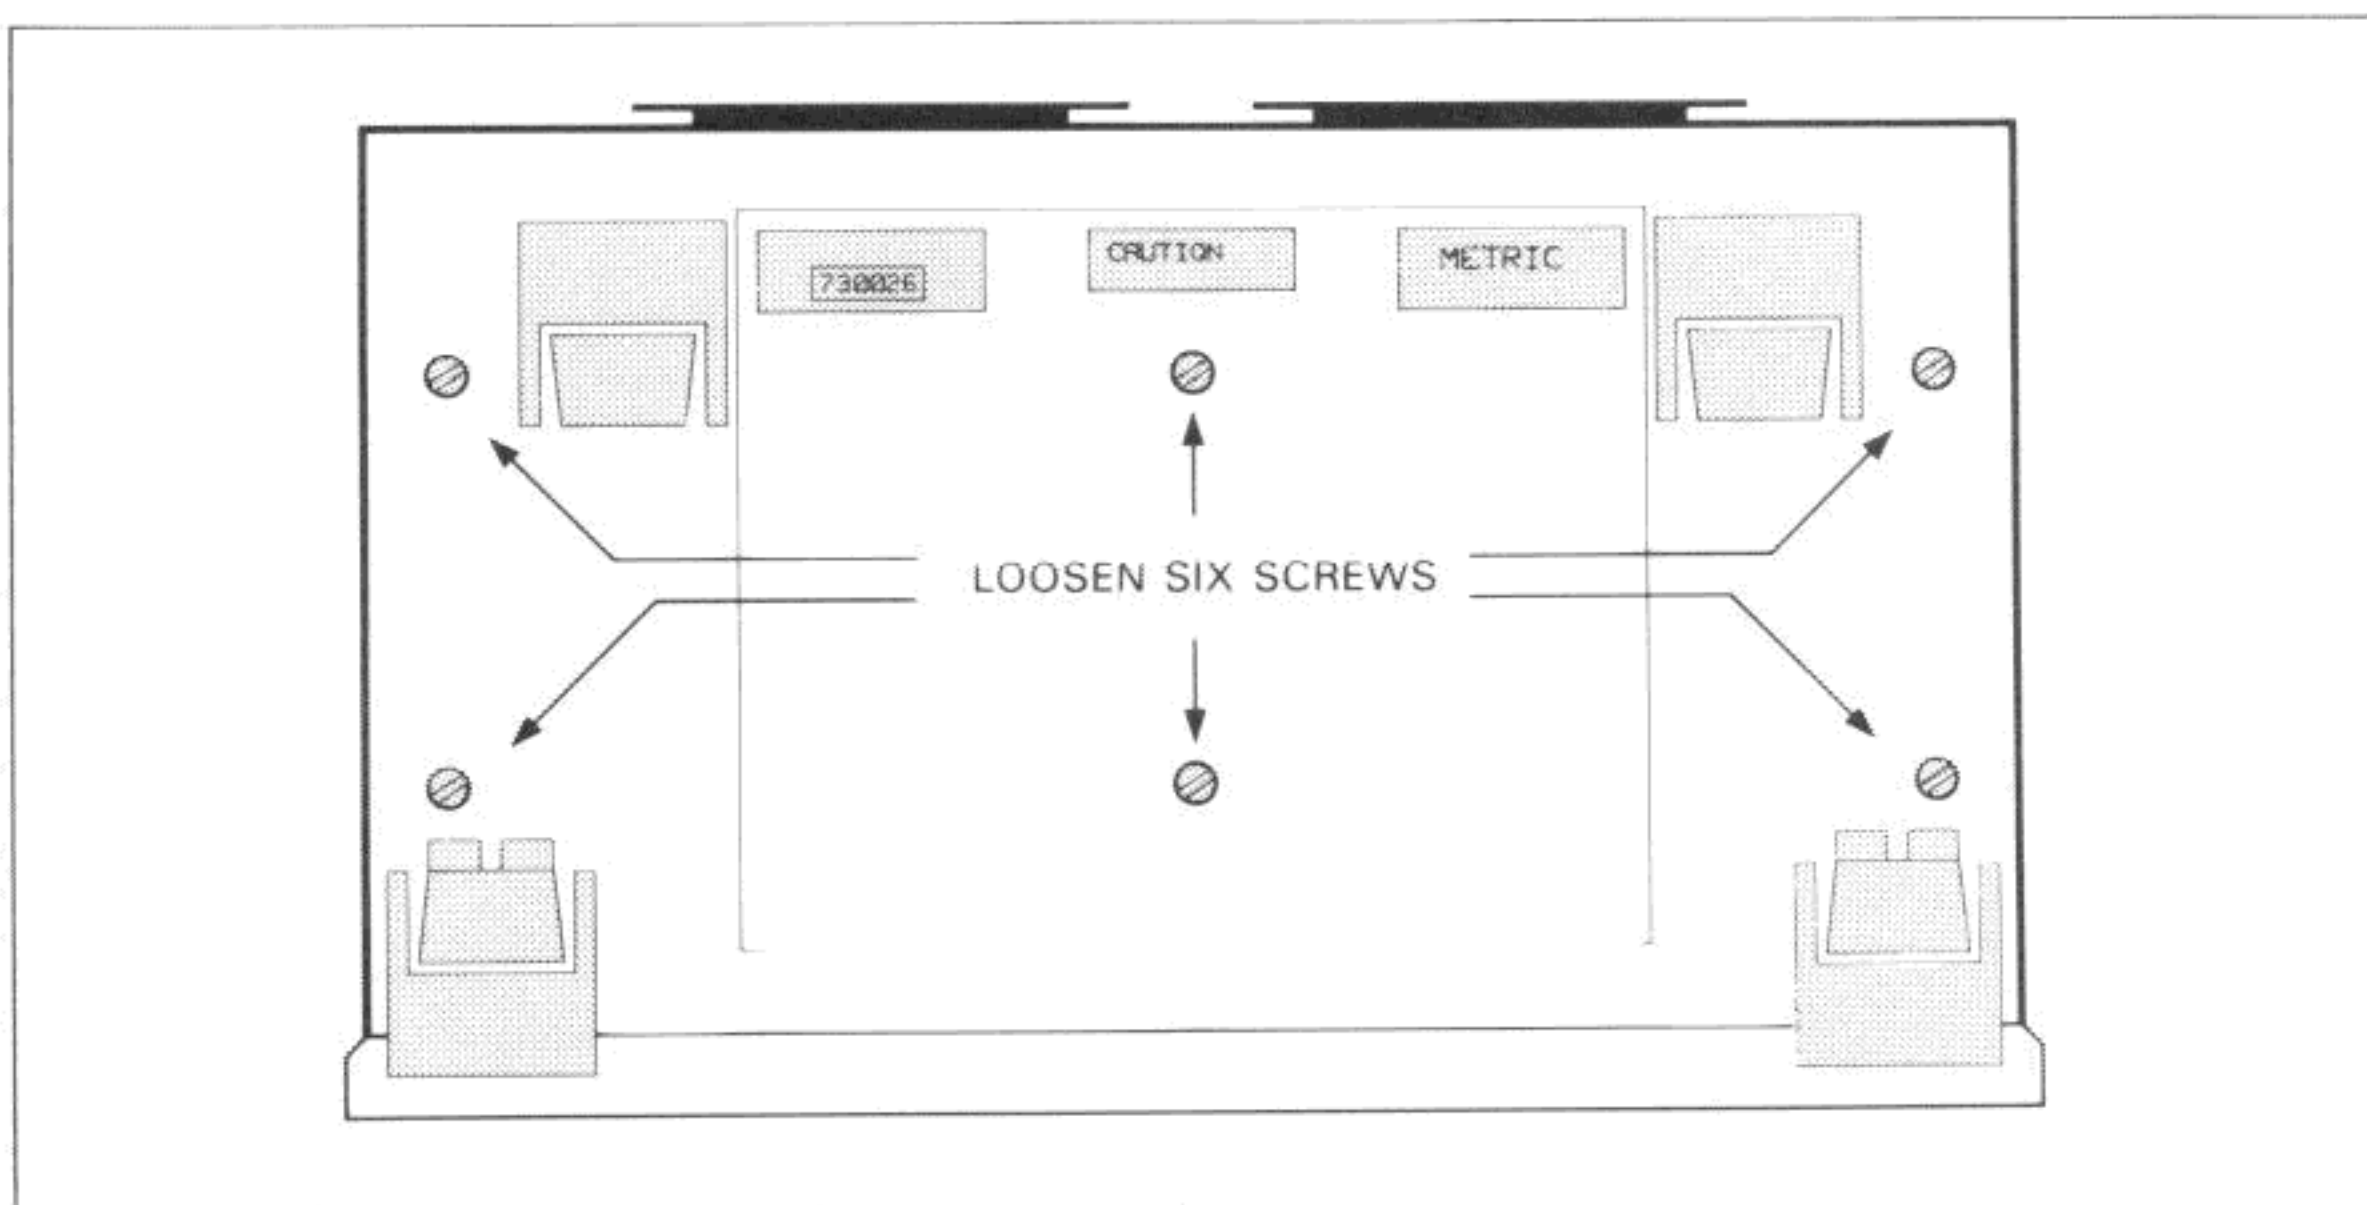

Figure 4-8-1. HP 3421A Case Disassembly
b. Turn the instrument upside down. This is preferably done on top of a protective mat to reduce the possibility of scratching or marring the instrument case. Refer to Figure 4-8-1 and loosen the six screws on the instrument bottom.